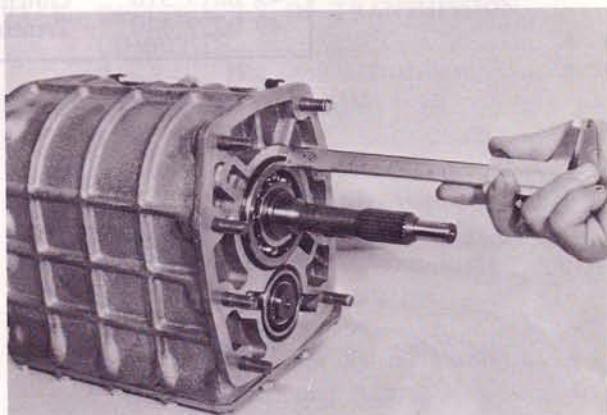

Fig. 7-38 Measuring bearing height
51. Check the bearing end play as follows: Measure the depth of the main drive shaft bearing bore in the clutch housing using a depth gauge. Then, measure the bearing height shown in Fig. 7-38. The difference between two measurements indicates the required thickness of the adjusting shim. The standard clearance is $0 \sim 0.1 \text{ mm}$ ($0 \sim 0.0039 \text{ in}$). If necessary, select and use the properly sized shim. The shims are available in the following thickness: